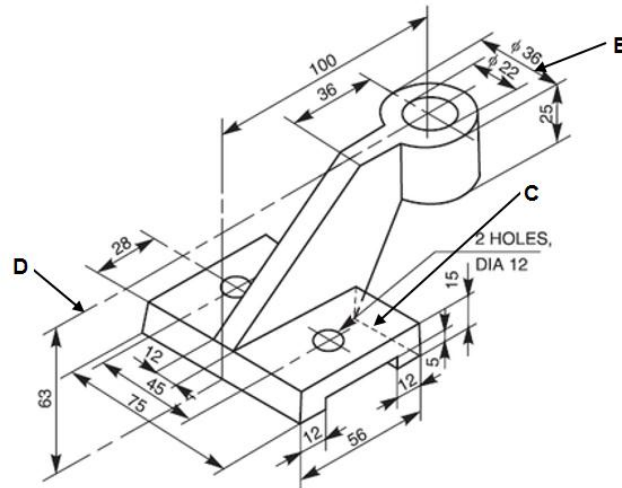

Figure 3
d. Answer the following questions referring to Figure 3.
iv. In what type of view is the bracket in Figure 3 drawn?